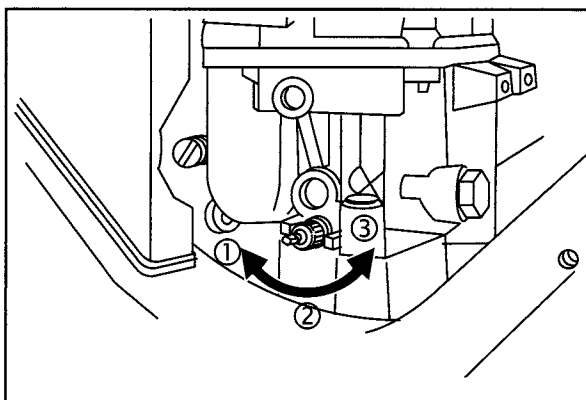

Fig. 11
4. Turn idle mixture screw slowly **CLOCKWISE** (1) until engine speed just starts to slow (LEAN mixture), Fig. 11.